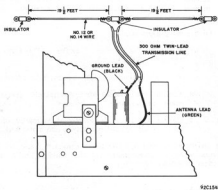

Fig. 2. Doublet Antenna Installation
1. Construct the antenna as shown in Fig. 2. Note that the antenna is $19\frac{1}{2}$ feet long each side of center, the two sections being insulated from one another.